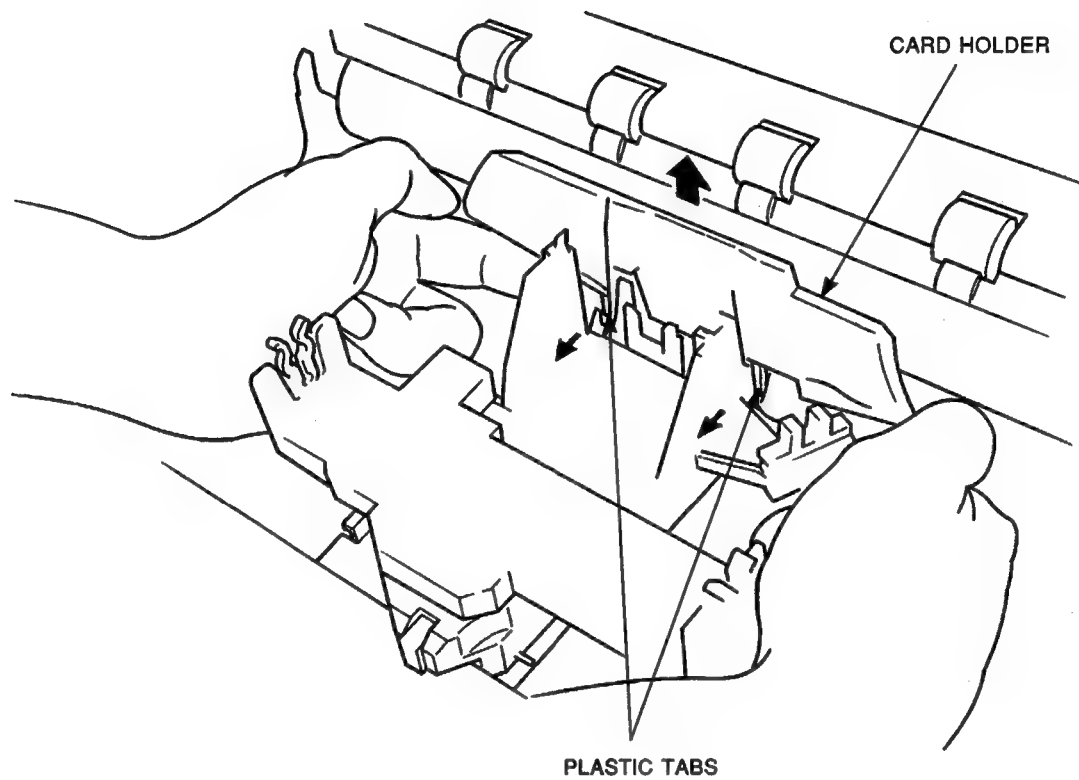

Figure 3-6 Card Holder Removal
2. Pull the plastic tabs at the bottom of the card holder together, and remove the card holder (see Figure 3-6).